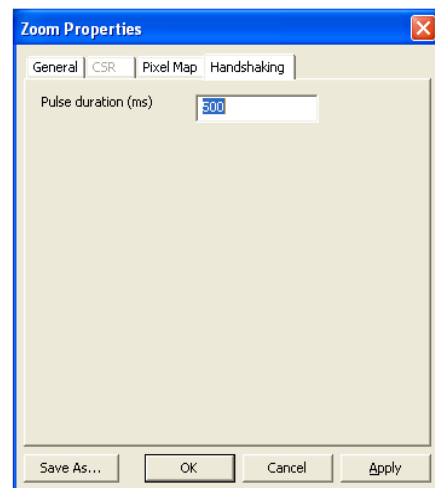

Figure 7.12.9 Pulse Duration
4. In the **Handshaking** tab, set the **Pulse Duration** to 500 (see Figure 7.12.9).